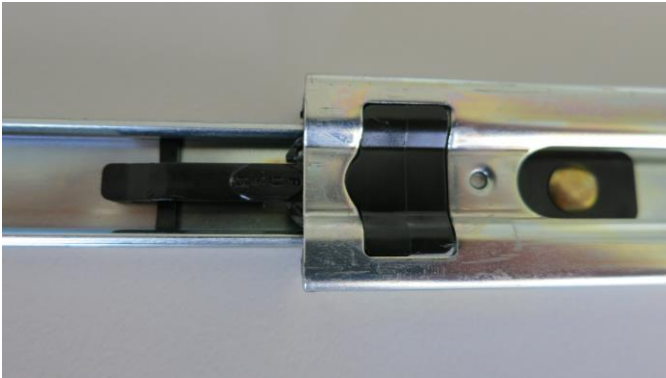

Figure 73 – Separate rack slides
2. Separate the slide rail assembly by pressing the black plastic clips on the slide rails to remove the inner section of the rail (refer to Figure 73).